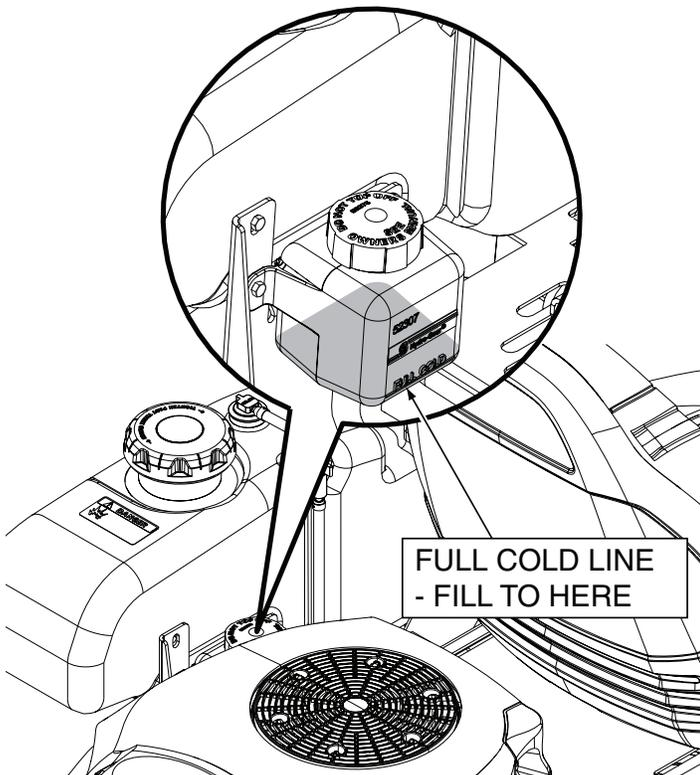

Figure 7-1. Hydraulic System Oil Level
2. When the machine is "cold" (before operation), visually check the level of the hydraulic system oil. Hydraulic system oil level should be up to the FULL COLD line on the reservoir. See Figure 7-1. DO NOT overfill; (overfilling the oil reservoir may cause oil seepage).